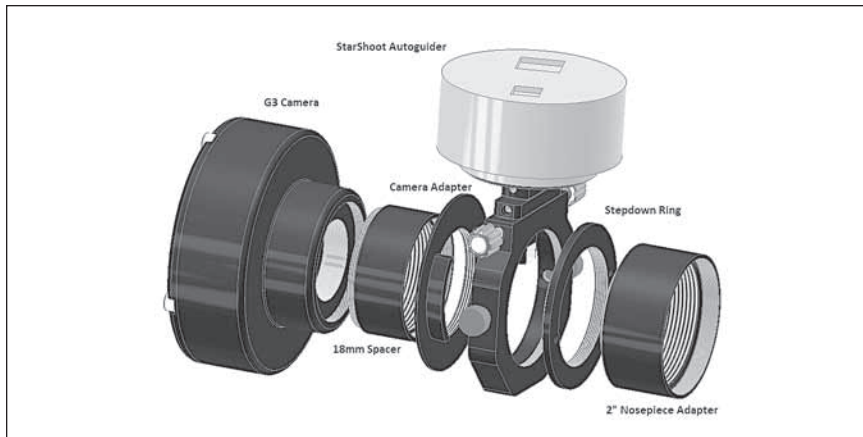

Figure 9. StarShoot G3 camera with StarShoot Autoguider
- c. Thread the StarShoot Autoguider onto the T-threads of the guider platform and the TOAG body onto a filter wheel (if being used) or the 2" nosepiece adapter for attaching the unit to a telescope, as shown in **Figure 9**.